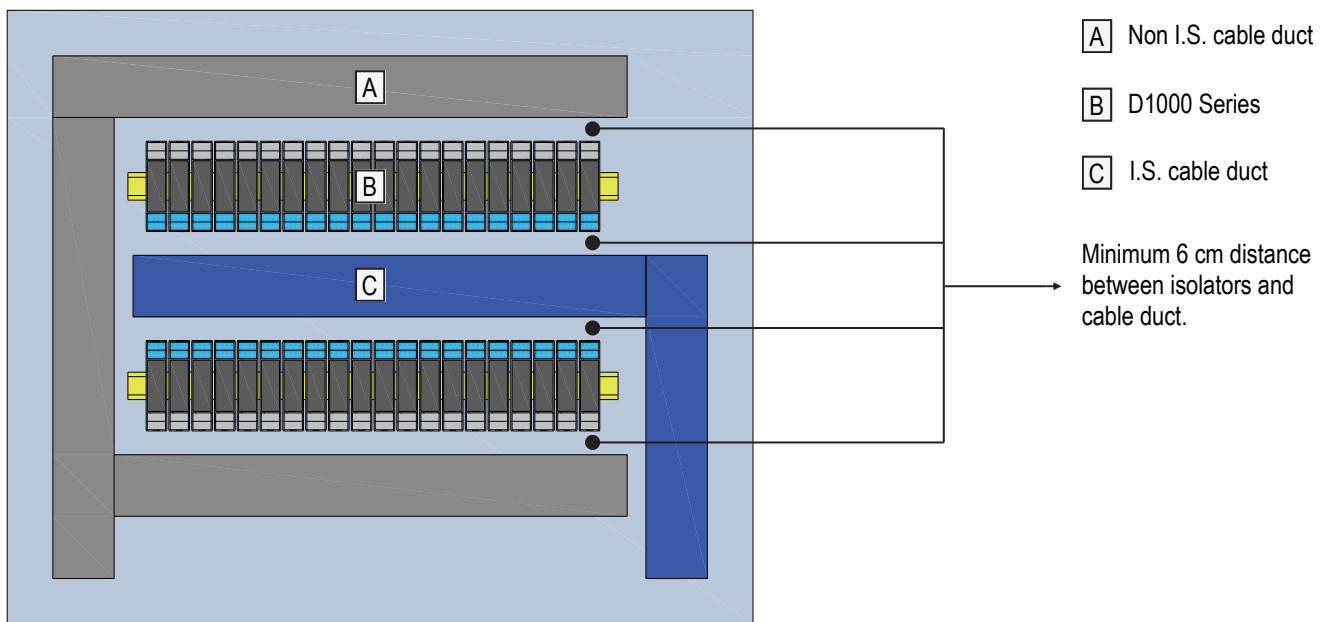

Fig. 1 Horizontal orientation in the cabinet
5. Take care about reasonable distance between D1000 series and cable channels. We recommend a distance of 6 cm. (see figure 1 and 2). If the place in the cabinet does not allow to keep the distance we strongly recommend to place the DIN rail away from the back side of the cabinet by means of distance bolts.